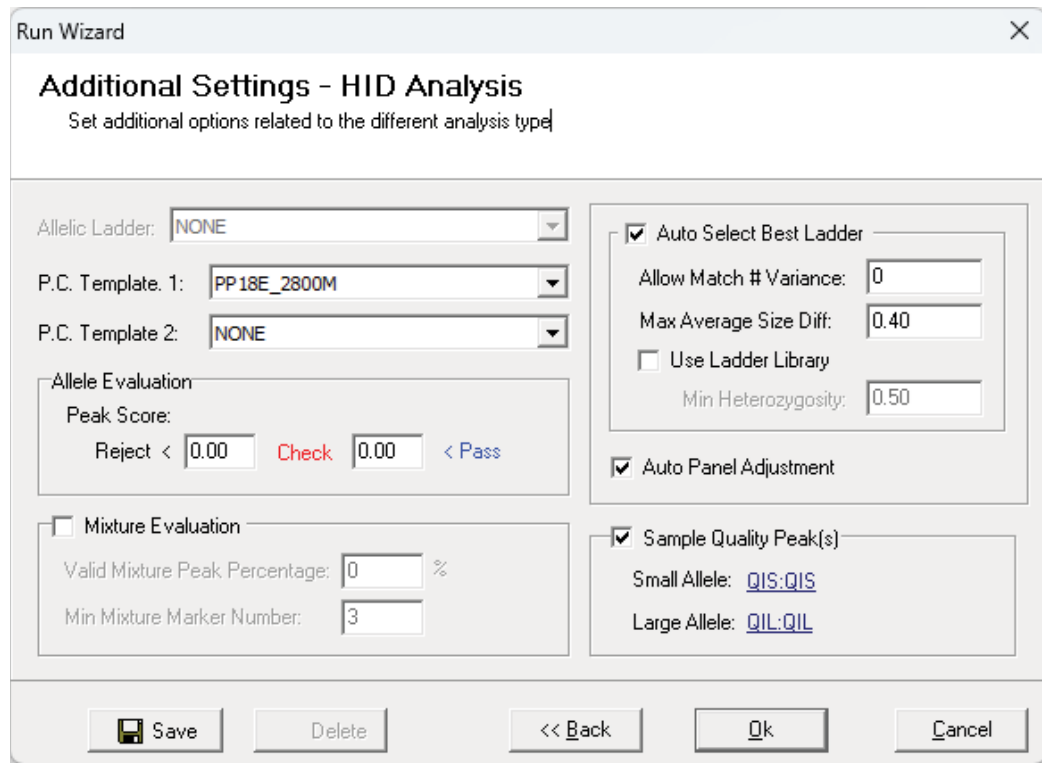

Figure 31. The 'Additional Settings' window for an analysis method.
10. The 'Additional Settings – HID Analysis' window will appear (Figure 31). Select **18E_2800M** as the P.C. Template 1 and verify that the boxes are checked for "Auto Select Best Ladder", "Auto Panel Adjustment" and "Sample Quality Peak(s)". If the PowerPlex 18E positive control template is not available, consult the *GeneMarker®HID Software for Spectrum CE Systems User Manual #TM555* and use the Positive Control Template Editor to set up a new template. Ensure that "QIS:QIS" is selected for the Small Allele and "QIL:QIL" for the Large Allele in the Sample Quality Peak(s) Section. The values displayed in the 'Allele Evaluation' dialogue box are defaults and will affect the quality values displayed in the plot settings. For more information on quality values, use of a second positive control and mixture evaluation, refer to the *GeneMarker®HID Software for Spectrum CE Systems User Manual #TM555*. Select **OK** to analyze the raw data.